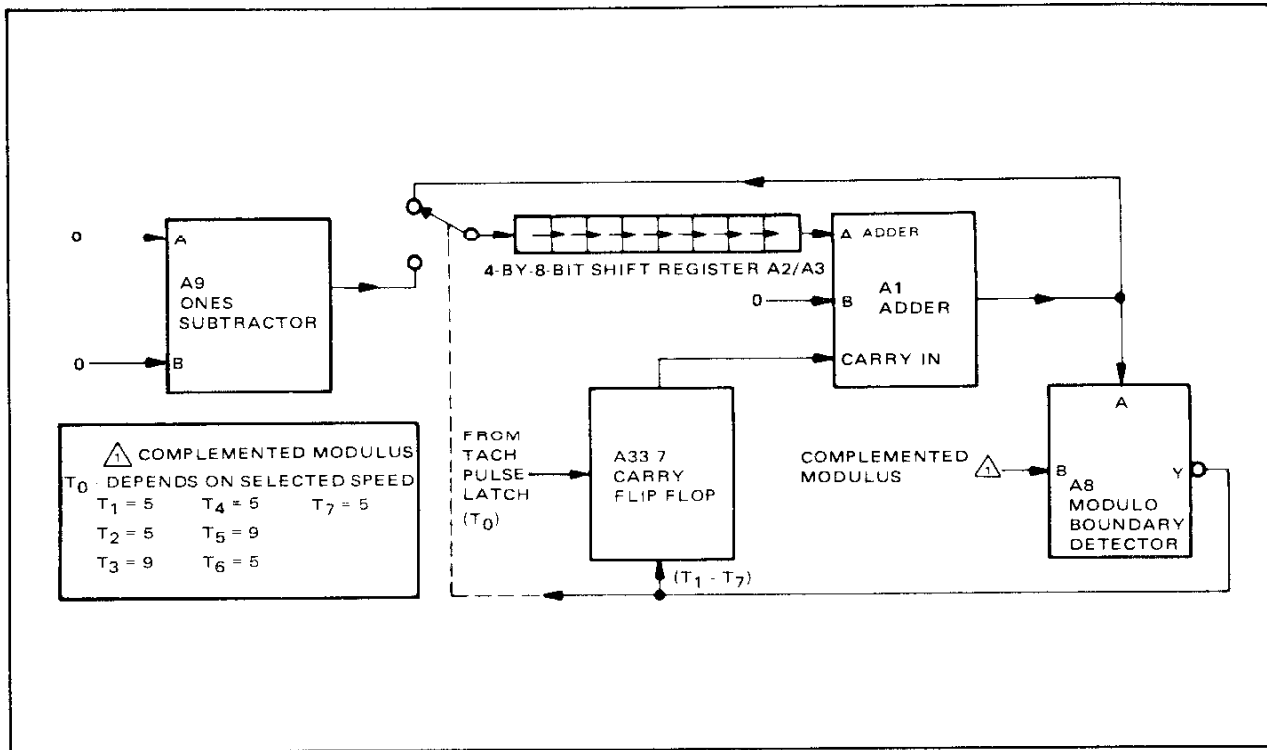

Figure 4-26. Count Up Logic, Simplified Block Diagram
**4-91. Count-Up Mode.** When the tape is moving forward, the tape timer is in a count-up mode. During this time, the TDR signal (up/down command) is high. When the TDR signal is high, direction latch A33-2 is set by the positive-going edge of the 432-kHz clock. With direction latch A33-2 set, the output of the carry flip-flop A33-7 is directed to the carry input of adder A1 through NOR gate A20-1; the 4-bit data from the modulo logic is gated to modulo boundary detector A8 via the complementary encoder A13/A14; and the 4-bit data to the ones subtractor A9 is low. Figure 4-26 shows a simplified block diagram of the serial adder formed by 4-by-8-bit shift register A2/A3 and associated components A1, A8, and A9.
As shown in Figure 4-26, each BCD digit is shifted through the shift register and adders as a parallel 4-bit number. The data through 4-by-8-bit shift register A2/A3 is shifted serially by the 432-kHz signal. At time  $t_0$ , the least significant bit of the eight-digit BCD number is shifted out of the register to the A inputs of adder A1. During the count-up mode, the B inputs to adder A1 from NOR gate A20-13 are low, and the carry in to adder A1 will go high only when a tach pulse had been received during the previous  $t_0$  through  $t_7$  cycle, or a carry is generated at any other period than  $t_7$ . If no tach pulse was received during the previous cycle ( $t_0$  through  $t_7$ ), the least significant digit which is present at  $t_0$  will be unchanged by adder A1. The output of adder A1 is recirculated back to the input of 4-by-8-bit shift register A2/A3. The output of the adder A1 is also sent to the A input of modulo boundary detector A8. The B input to modulo boundary detector A8 is the 15's complement of the modulus for that specific digit. At time  $t_0$ , the modulus is determined by